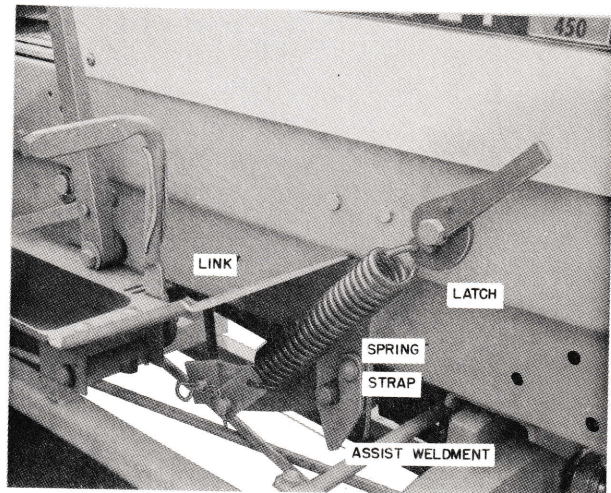

Figure 2
2. Install the assist weldment in the attachment latches on the side frame of the tractor as shown in figure 2. When using a powered front mounted attachment, the cross shaft of the weldment will be above the drive shaft.
5. Install the latch pins in the side frame of the tractor as shown in Figure 2.
Figure 2 shows the 18899E1 Lift Assist Auxiliary kit and 11271E1 Lift Assist Kit installed on a tractor with a front mounted mower.